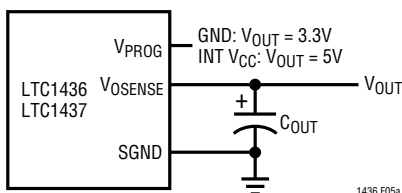
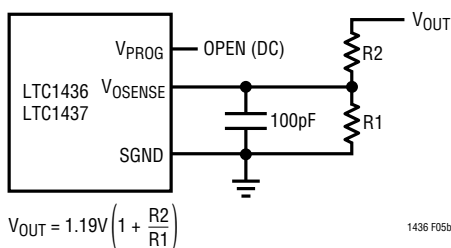

Figure 5a. LTC1436/LTC1437 Fixed Output Applications
Figure 5b. LTC1436/LTC1437 Adjustable Applications
The LTC1436/LTC1437 family also has remote output voltage sense capability. The top of an internal resistive divider is connected to  $V_{\text{OSENSE}}$ . For fixed 3.3V and 5V output voltage applications the  $V_{\text{OSENSE}}$  pin is connected to the output voltage as shown in Figure 5a. When using an external resistor divider, the  $V_{\text{PROG}}$  pin is left open (DC) and the  $V_{\text{OSENSE}}$  pin is connected to the feedback resistors as shown in Figure 5b.